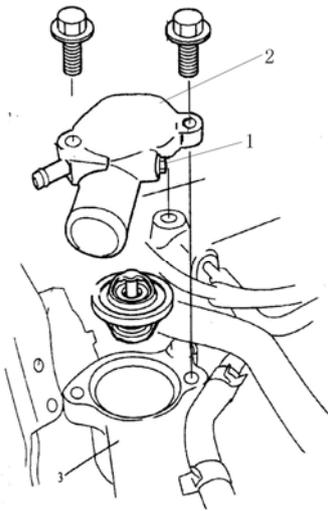

FIG.7-18
- 1) Tighten thermostat air bleed bolt, and fill radiator to the neck(FIG.7-18)。